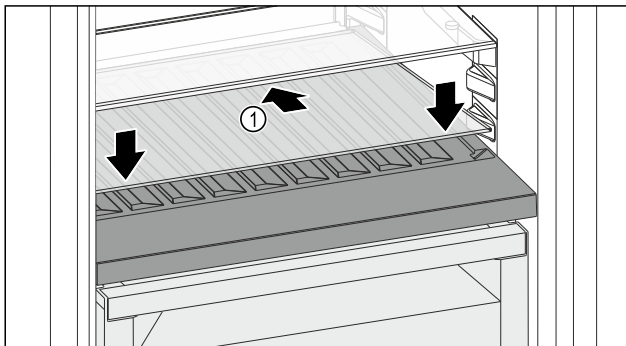

Fig. 149
- Place the glass shelf Fig. 149 (1) at an angle, sloping it downwards and backwards.
- Lower the glass shelf Fig. 149 (1) at the front.